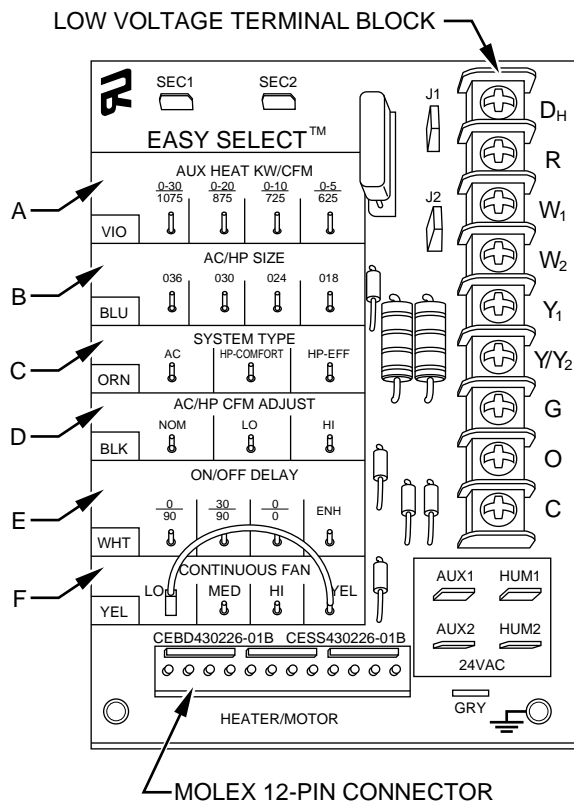

Fig. 20—Set-Up Instructions for Warmer Heating Temperatures and Super Humidity Control in Cooling
J. Heat Pump Heating with Thermidistat™ Control (See Fig. 20 for Quick Reference Guide)